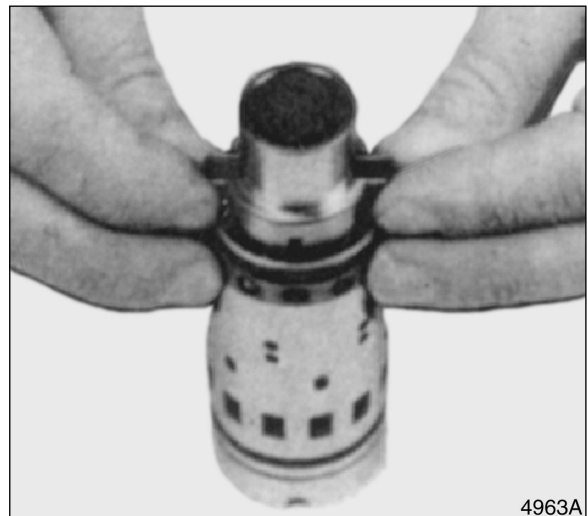

Figure 33
4. Center springs in sleeve. See Figure 33.